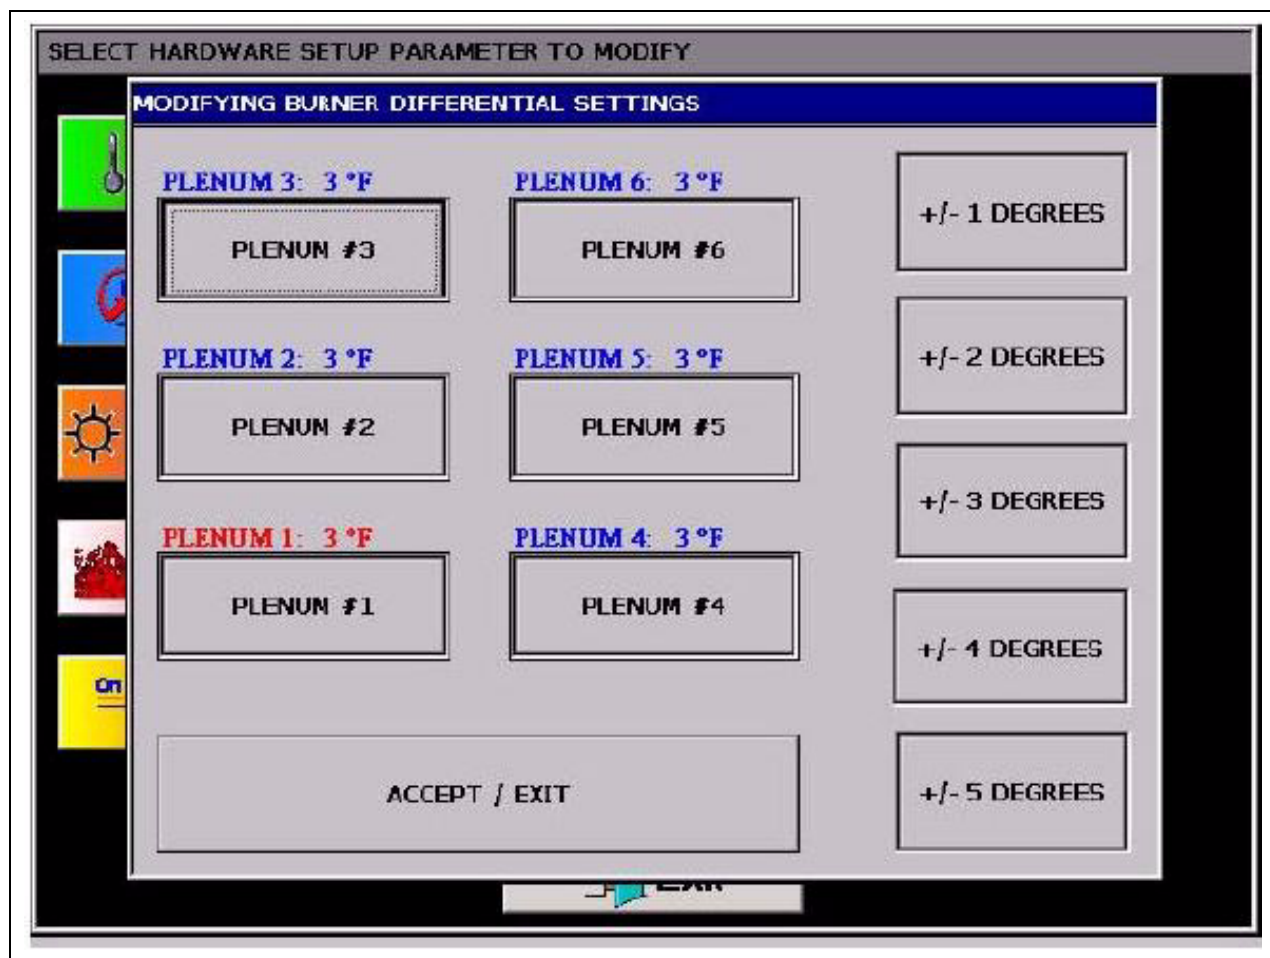

Figure 6I
8.  to adjust the switching range of the burner. (See Figure 6I on Page 44.) Default is 3°F (1°C). Tower dryers have just 1 plenum.